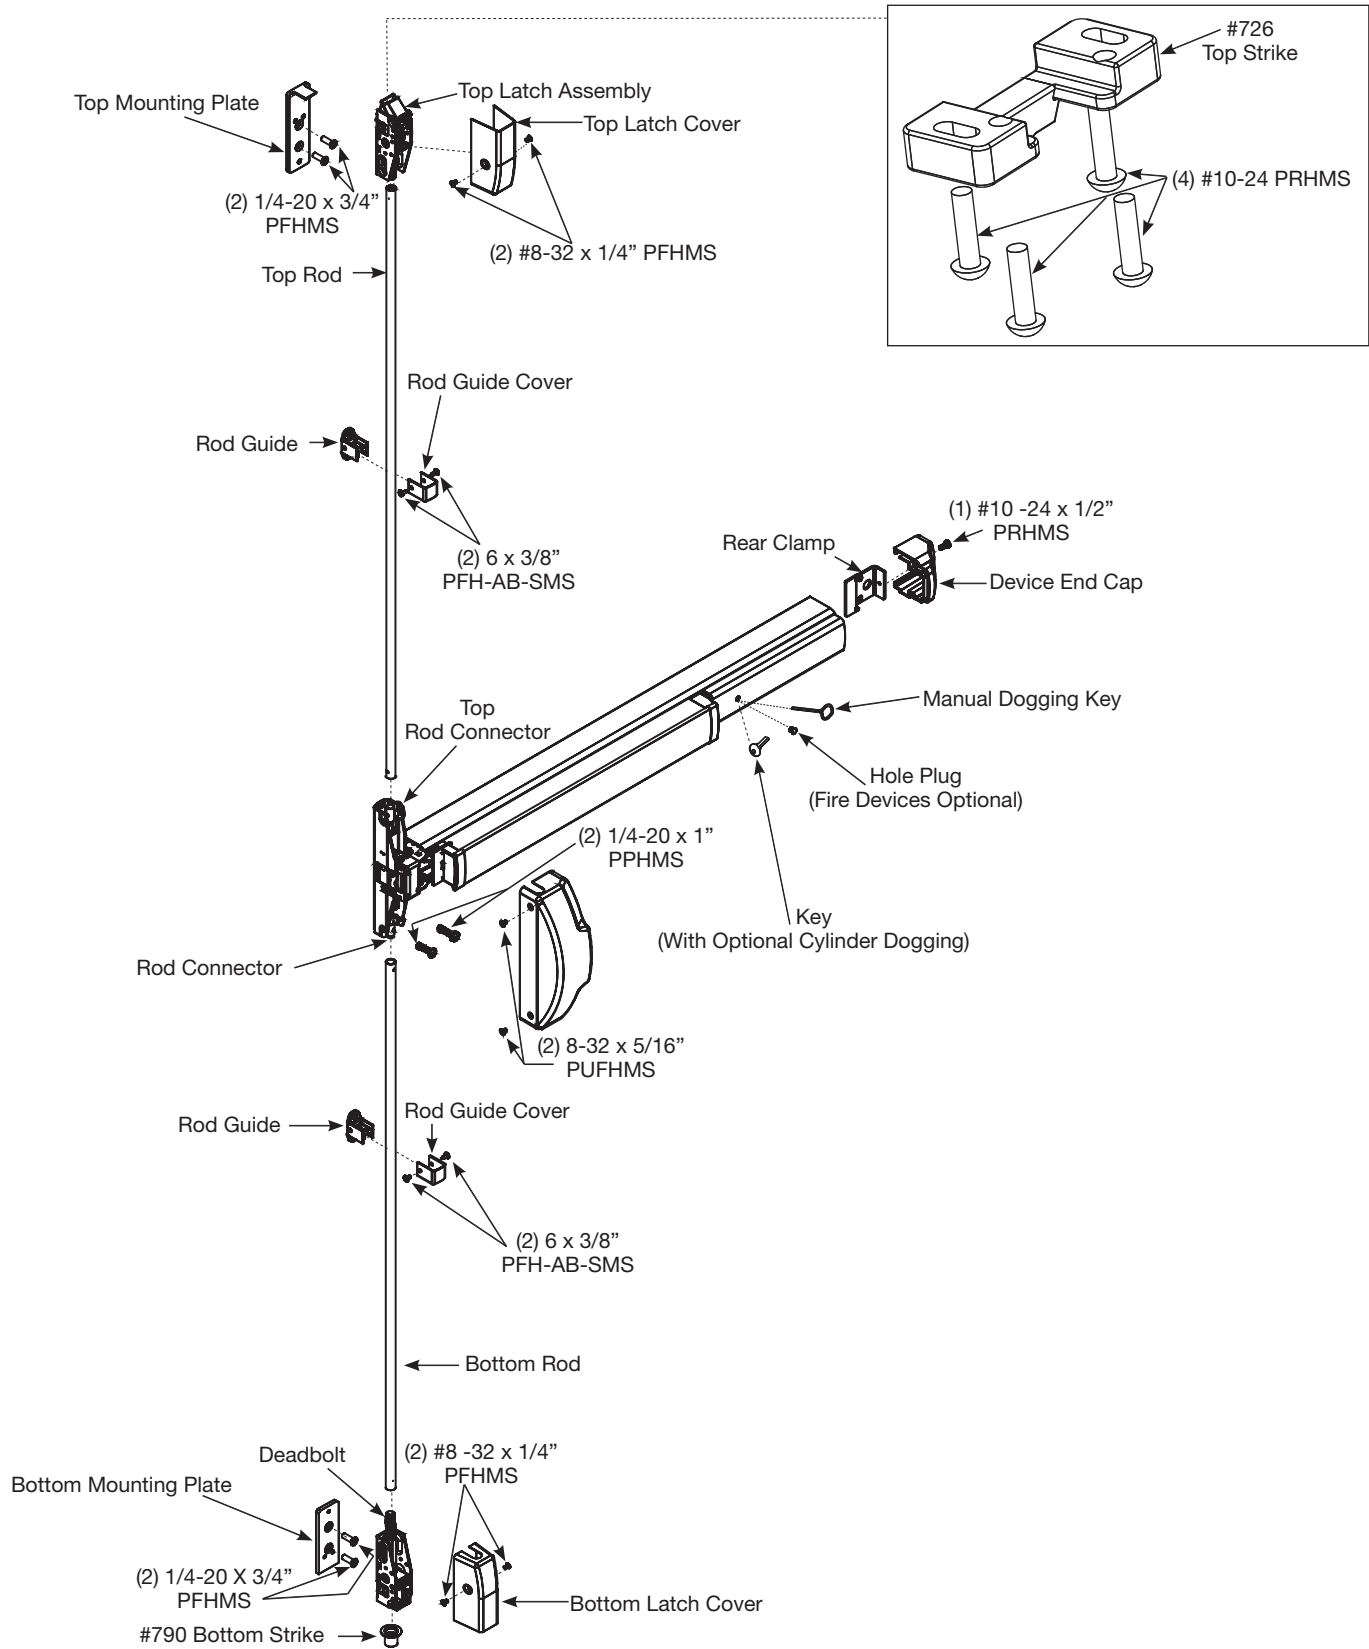

Figure 1: Exploded View of Wide Stile (6170(F) Series)
1. Unpack and verify components received using the parts list and exploded views shown in Figures 1 and 2.